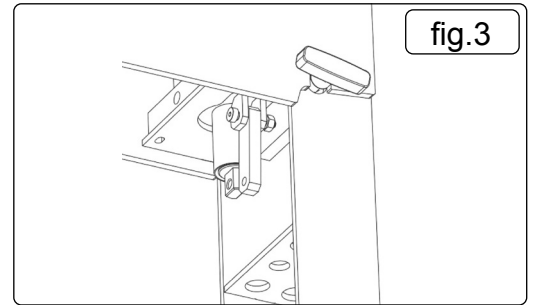

fig.3
4.2.1. Fig.3: Assemble part 41 with parts 43 & 45.